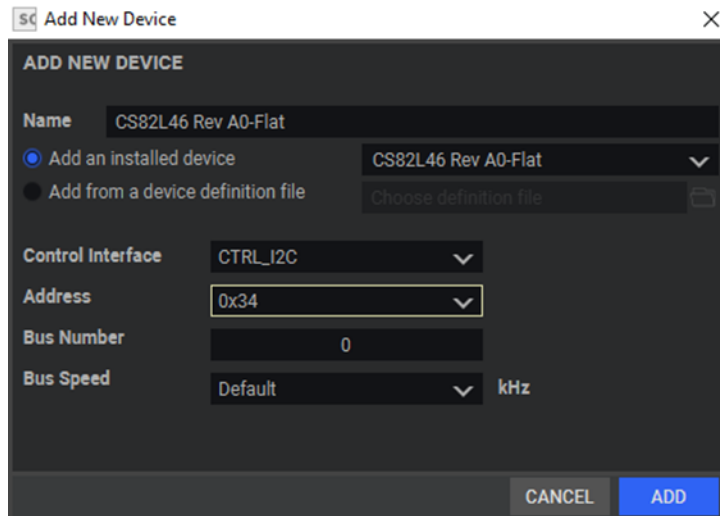

**Figure 29. SoundClear Studio - Adding an Existing System**
1. In the **Navigator** tab, right click on the unknown system and select **Add Device...**, see Figure 29.